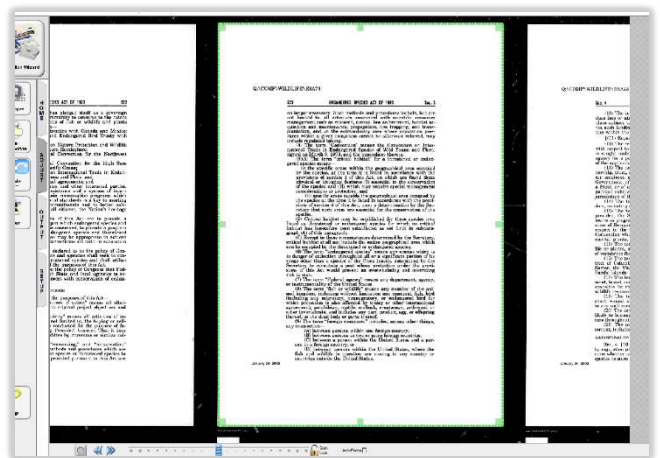

Figure 71
- A zoom setting which allows for space to the right and to the left of the displayed image is necessary for *AUTO-Scan* to work reliably. *Figure 71*.